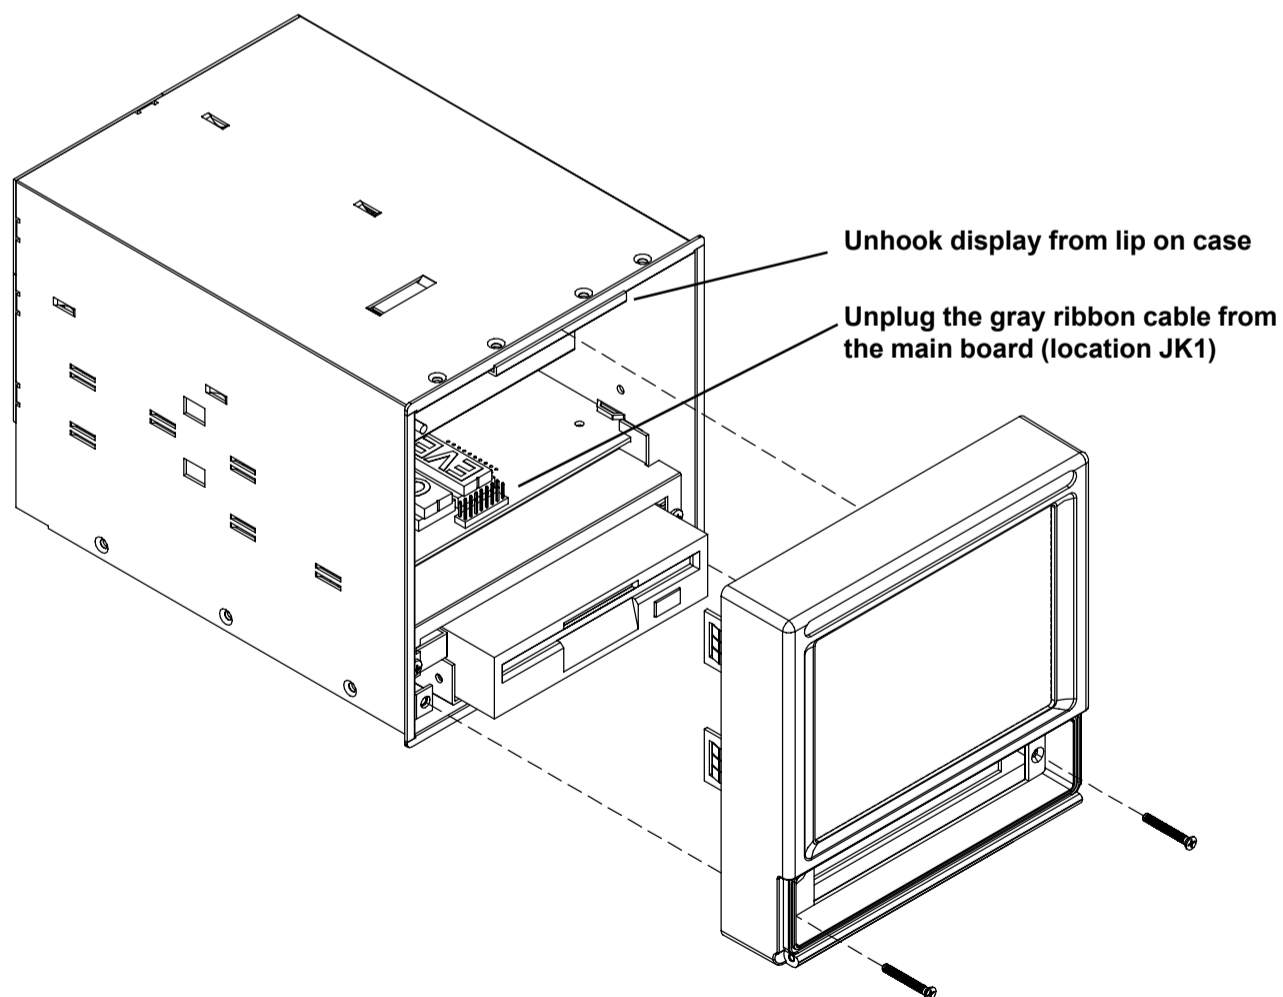

Figure 1 Removing the Display
2. Unplug the unit, open the disk drive door and remove the two screws on either side of the drive (see Figure 1, drive door not shown for clarity).